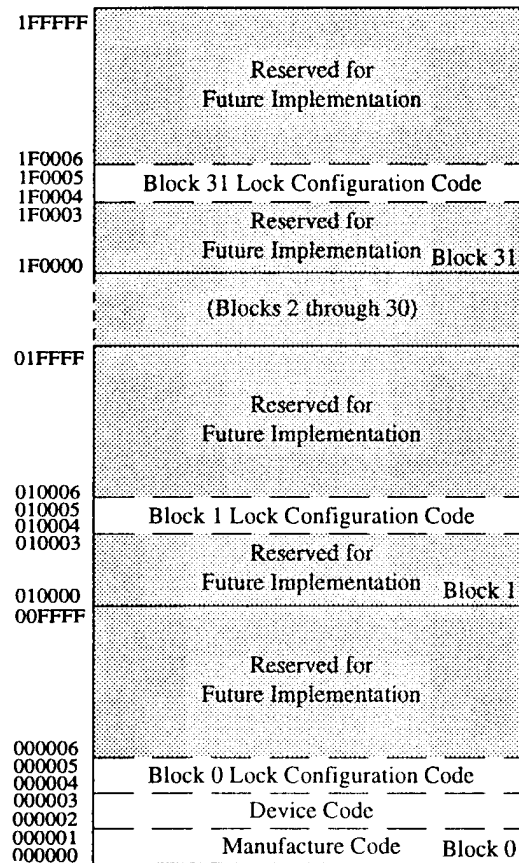

Figure 2. Device Identifier Code Memory Map
The read identifier codes operation outputs the manufacturer code (Block 0), device code (Block 0), and block lock configuration codes (for each block), see Figure 2. Using the manufacturer and device codes, the system CPU can automatically match the device with its proper algorithms. The block lock codes identify locked and unlocked blocks. This card is can not lock bit configuration.
IA = Identifier Code Address: see Figure 2.
The host initiates the identifier code operation by writing the Read Identifier Codes command. Following the command write, read cycles from addresses shown in Figure 2 retrieve the manufacturer, device and block lock configuration codes (see Table 3 for identifier code data). To terminate the operation, write another valid command. Although Table 3 lists the device code as D0D0, other Sharp's Flash Memory Miniature Card could also have device codes AAAA, A6A6 or A7A7. Host software should check for all four cases for compatibility with future cards.
1.  $\times$  selects the specific block status code to be read. See Figure 2 for the device identifier code memory map.